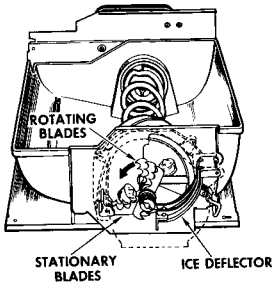

Figure 3 - Crusher Mechanism
5. With the selector button positioned for "Crushed Ice", ice cubes (being pushed out of the bucket by the auger assembly) fall onto the ice deflector. See Figure 3. The rotating crusher blades, mounted on the front of the auger shaft, pick the cubes up from the ice deflector and bring them in contact with the stationary blades where crushing takes place. The crushed ice falls down the chute, through the open duct door and into the glass at the cradle.